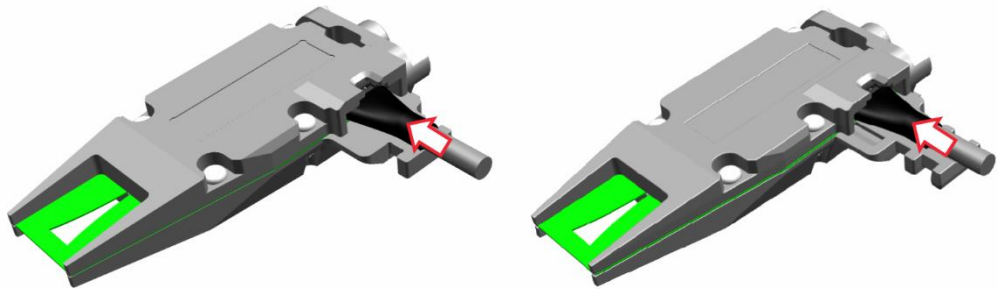

Figure 2-5: Connect new cable
5. Connect the new cable until it snaps in. See Figure 2-5: Connect new cable.